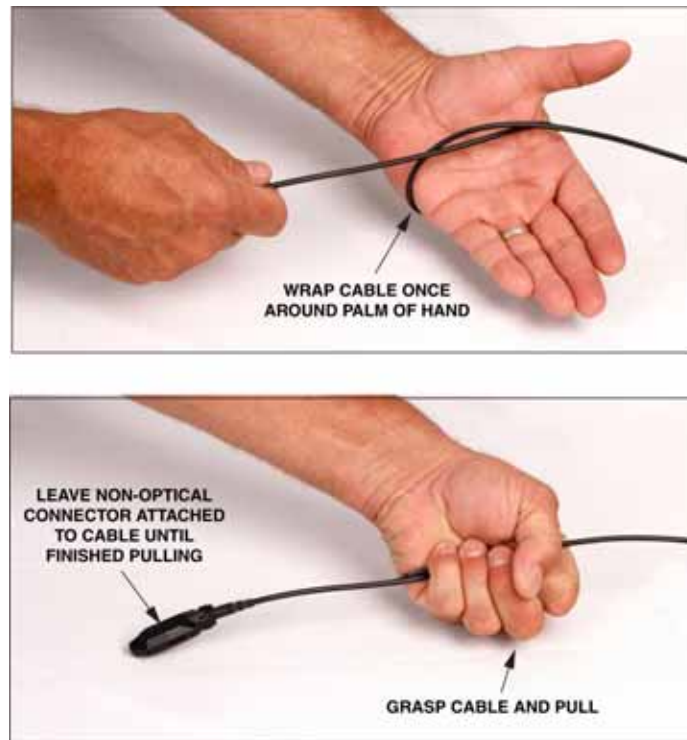

Figure 19. Hand-Wrap Method for Pulling Cable
**Caution:** Avoid using excessive force when unwinding microcable from the internal spool. Use the hand-wrap method if pulling on the cable by hand; refer to Figure 19.